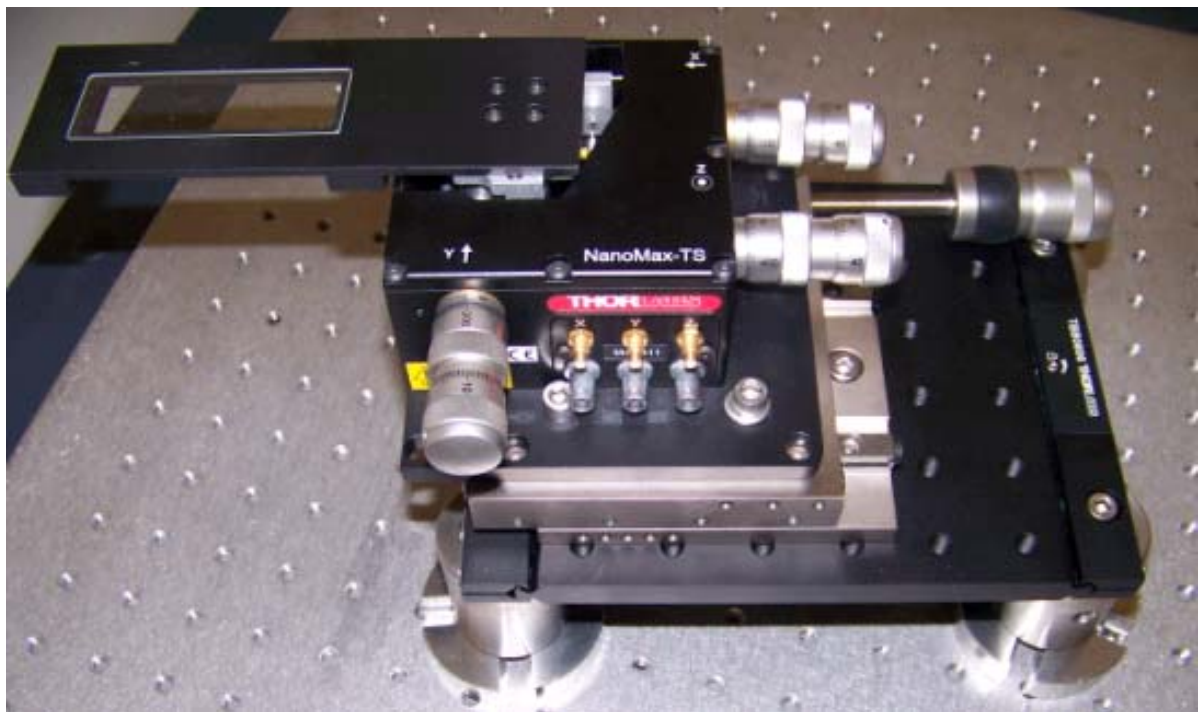

Figure 4.6.1: The sample stage and holder
3. Mount the LNR50D to the translating breadboard as shown in Figure 4.6.1.